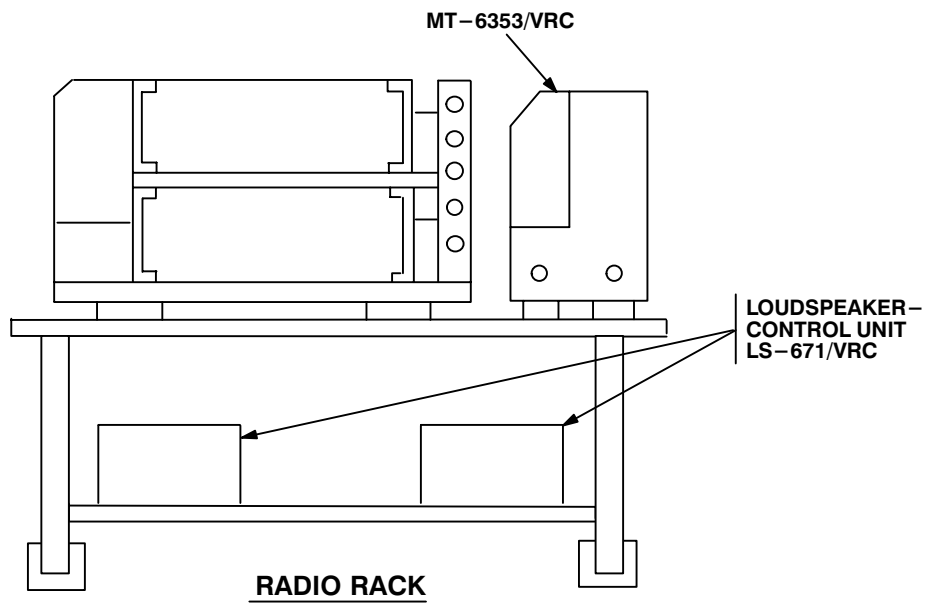

Figure 5-1 (2). MK and Radio Installation: Radio Equipment Locations
**5.1 Installation of Antenna AS-3900/VRC (antenna).** Use the following procedure to install both antennas. See figure 5-1 (1) for locations.